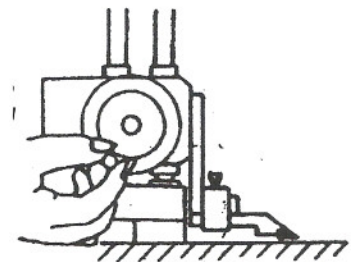

Fig. 2
- a. Course adjustment: Turn the small handle. Fig.2.